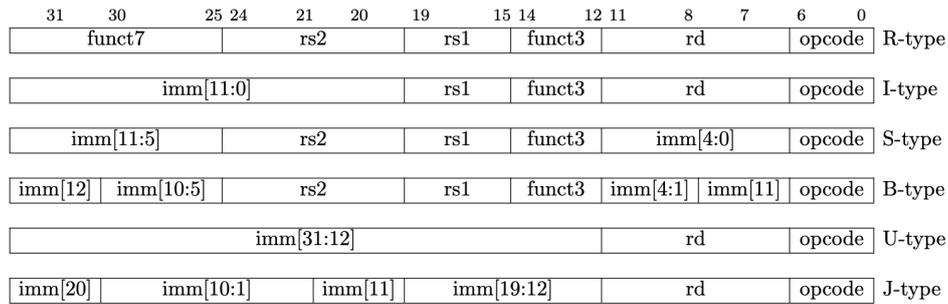

Figure 13: RISC-V instruction encoding formats.
The opcode defines the overall area of the encoding space our extension will use, but not the encoding of specific instructions. That is defined by choosing the encoding formats for each instruction, which are reported in Fig. 13:
- use four inline assembly with raw bits to perform two Loads, one DotProduct, and one store. You will need to remember the instruction encoding chosen previously! Also refer to Fig. 13 for the correct encoding. For now, do not test the auto-increment function of `xfirlw` and `xfirsw` and the right-shift of the latter instruction.